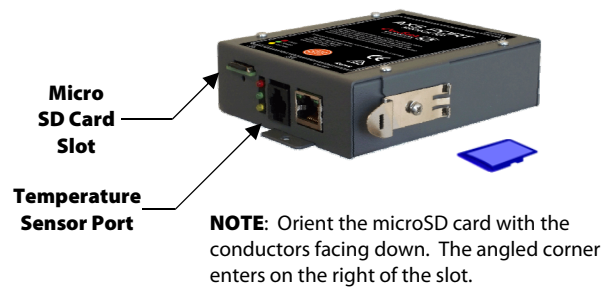

Figure 6 Accessories
- **SD Card LED:** Illuminates when a microSD card is correctly placed in the slot. See Figure 6.